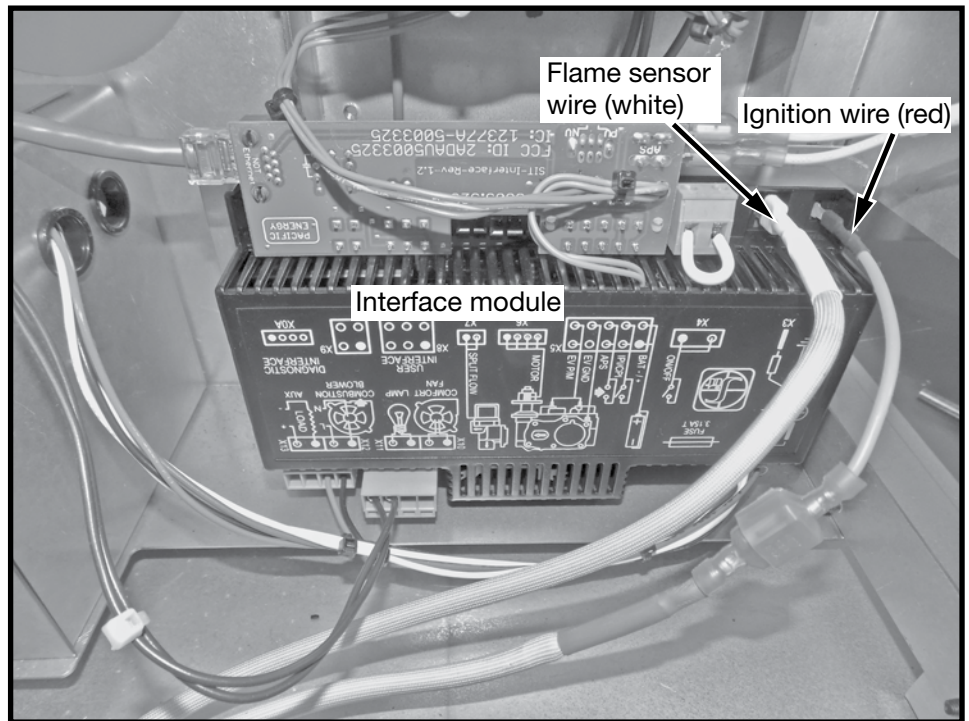

Figure 5: Interface module.
4. Attach the ignition and sensor wires to the module (Figure 5).